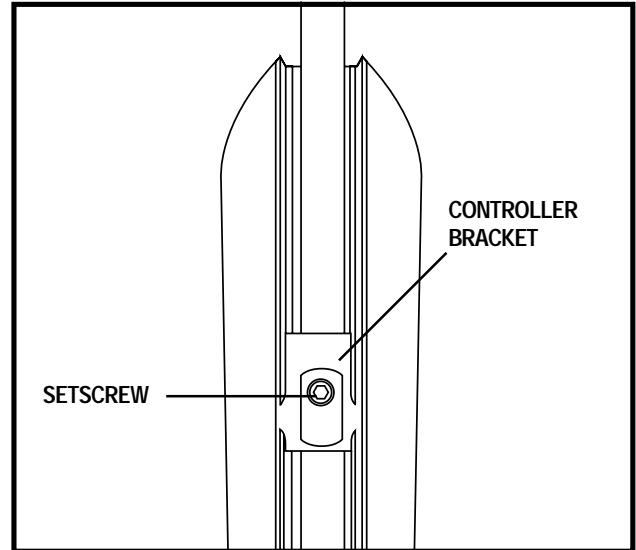

Figure 13. Controller Extension
The controller can easily slide out away from the armrest, or in toward the armrest. You can also move the controller to the other armrest. See figure 13.
2. Loosen the setscrew on the controller bracket. See figure 13.